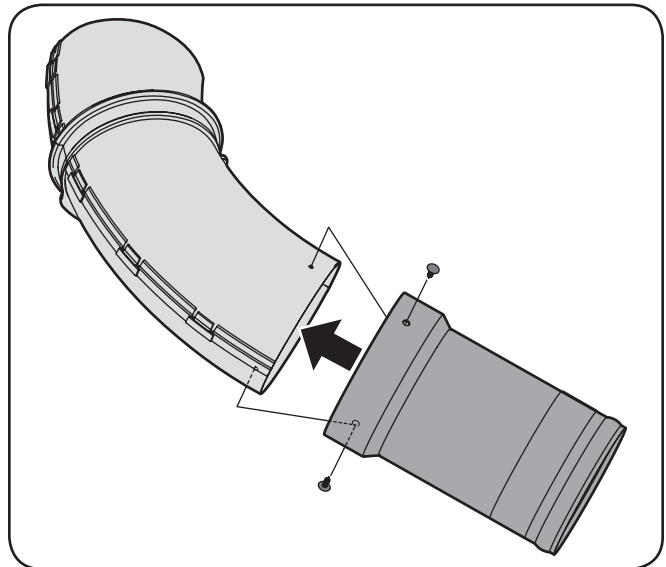

Figure 4-22
6. Install the upper chute tube into the extension tube that the rubber strap was NOT installed on. Secure the tubes together using two ratchet clips (726-3046) included in hardware pack 689-00326. See Figure 4-22.